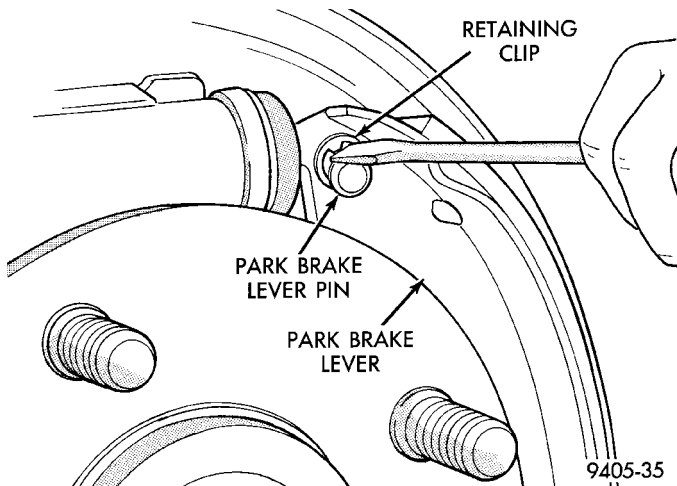

Fig. 85 Park Brake Lever Pin To Brake Shoe Retaining Clip
(9) Remove the park brake lever pin to rear brake shoe retaining clip (Fig. 85).
(10) Remove the leading and trailing brake shoe, upper return spring and automatic adjuster screw